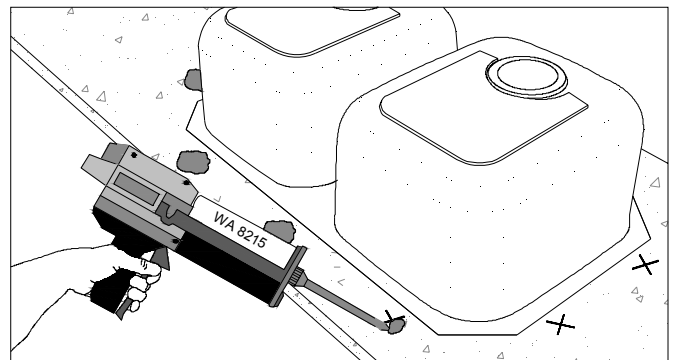

Figure 35C
- Apply ample WA 8215 where base plates were marked. (FIG. 35C)